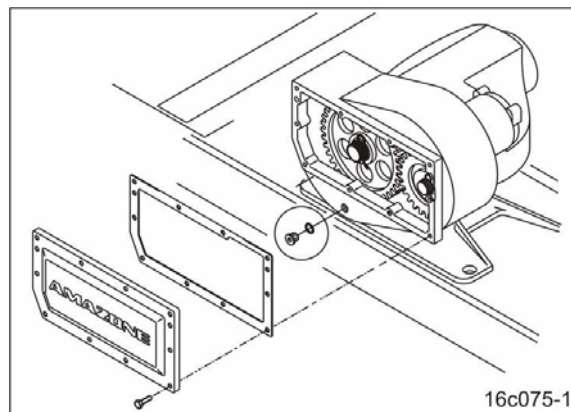

Fig. 158
7. Remove the retaining springs (Fig. 158/1).